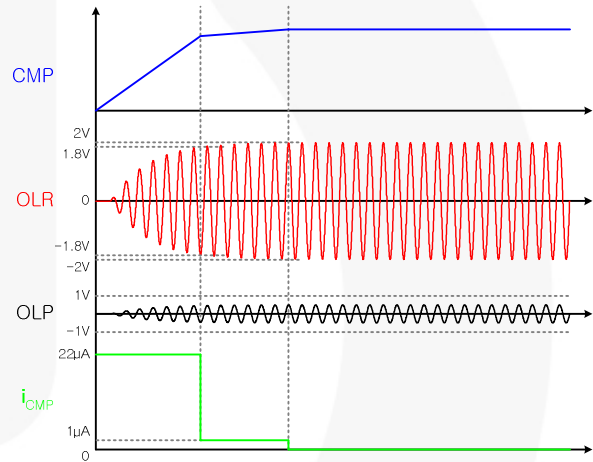

**Figure 46. MOSFETs Gate Drive Signal**
**Output Drives:** FAN7317 uses the new phase-shift method for full-bridge Cold Cathode Fluorescent Lighting (CCFL) drive. As a result, the temperature difference between the left and the right leg is almost zero, because ZVS occurs in both of the legs by turns. The detail timing is shown in Figure 46.